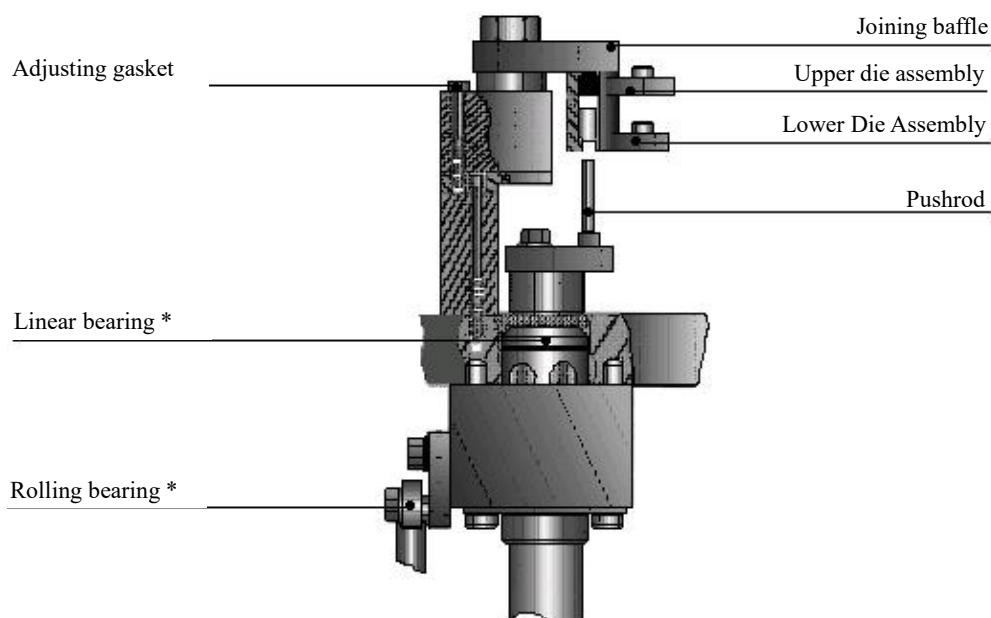

Fig. 25 Mechanism of Capsule Joining
5.2.10 Adjustment of capsule joining (refer to Fig. 25, 26, 27)